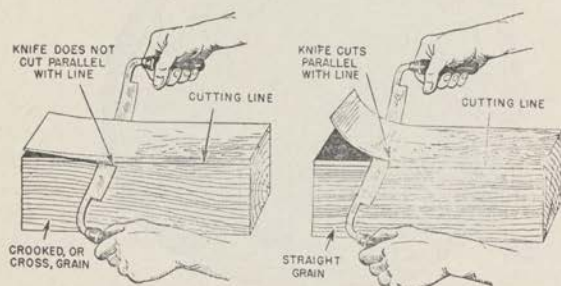

FIGURE 2.—Working crooked- and straight-grained wood with sharp-edged tool.
d. *Grain*.—When the annual rings are large, the grain or marking that separates adjacent rings is said to be coarse; when the rings are small, it is fine. Wood is straight-grained when the direction of the fibers is nearly parallel with the sides and edges of the board; otherwise it is crooked-grained or cross-grained. The importance of working only straight-grained wood with certain hand tools is illustrated in figure 2. A piece of lumber can stand more tension (pulling) or compression (pushing) in the direction of the grain than in any other direction.